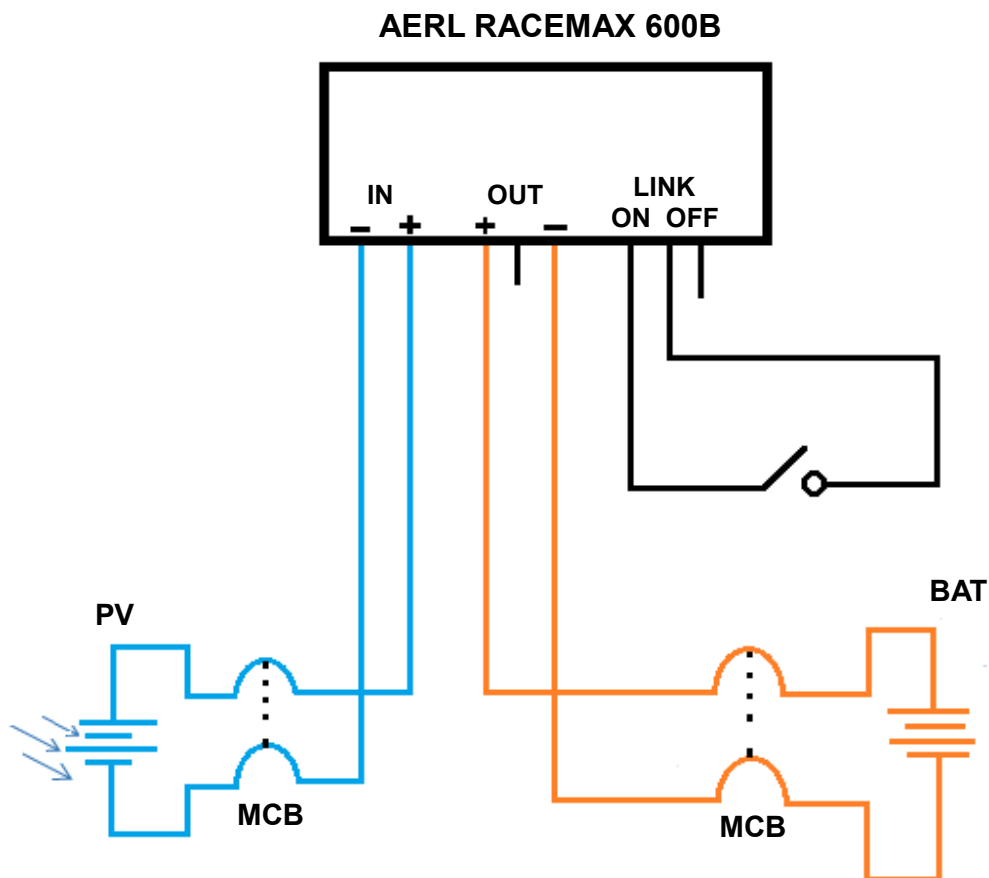

Figure 2: RACEMAX circuit breaker configuration using 60V, 20A 6kA MCBs for different output voltages.
- Install circuit breakers as shown in Section 4 (See Fig: 2, 2.1). If MPPTs are wired in parallel on the output, one circuit breaker is still required per MPPT on the output side. Using only a single higher rated Circuit Breaker on the output may still allow damaging currents to pass through an individual RACEMAX Unit and exceed its rating.